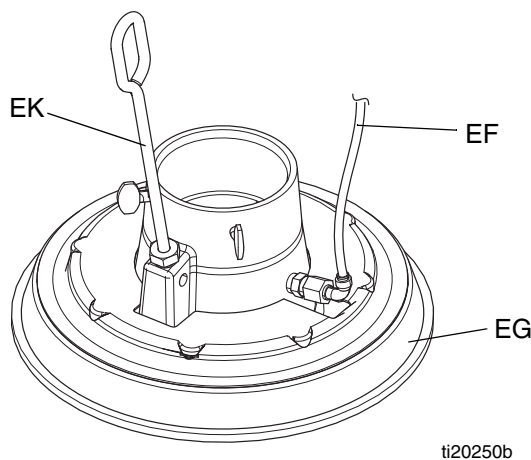

FIG. 10
See FIG. 10. If the platen does not come out of the pail easily when the pump is being raised, the air assist tube (EF) or air assist check valve may be plugged, or the bleed stick (J) may not be tightened. A plugged air assist check valve prevents air from reaching the underside of the plate to assist in raising it from the pail. If the bleed stick is not tightened no pressure will build.
1. Follow the **Pressure Relief Procedure** on page 10. Refer to platen assembly illustration on page 15 and disassemble air assist check valve (414) as shown.
2. Clear air assist tube (EF) in platen. Clean all parts of air assist check valve (414) and reassemble.
3. Remove bleed stick (J) from platen. Push bleed stick through bleed relieve ports to remove material residue.